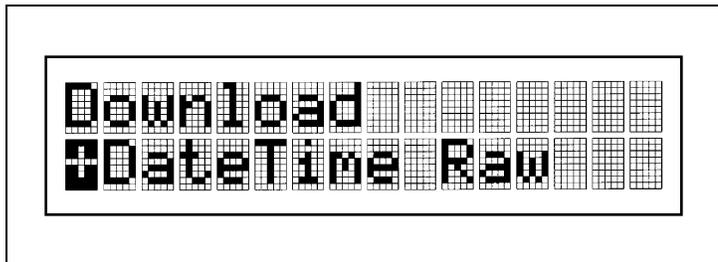

Figure 4-5: Data Download Display
4. Press SEND/AUTO SEND. As shown in *Figure 4-5*, the LCD display reads: